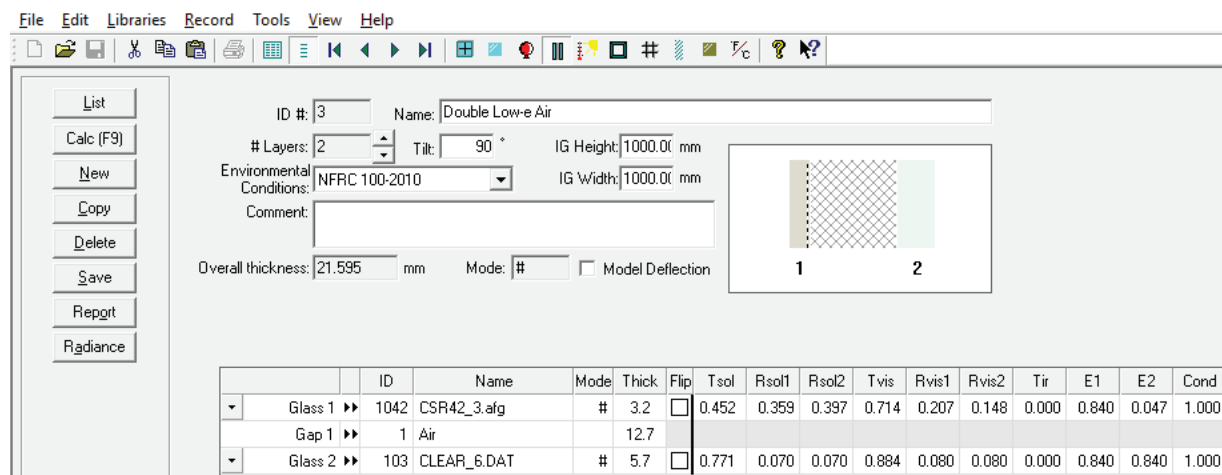

Figure 9-252: Create New Glazing System
- Click the New button to create a new Glazing System (see Figure 9-252)